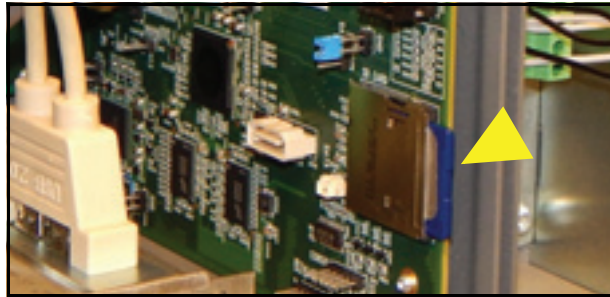

Figure 10. Locating SD card
- Figure 10. Locating SD card 8
13. Locate the SD card on the CPU board (see Figure 10). If a SD card is not installed as shown, skip Step 14 and go to Step 15.